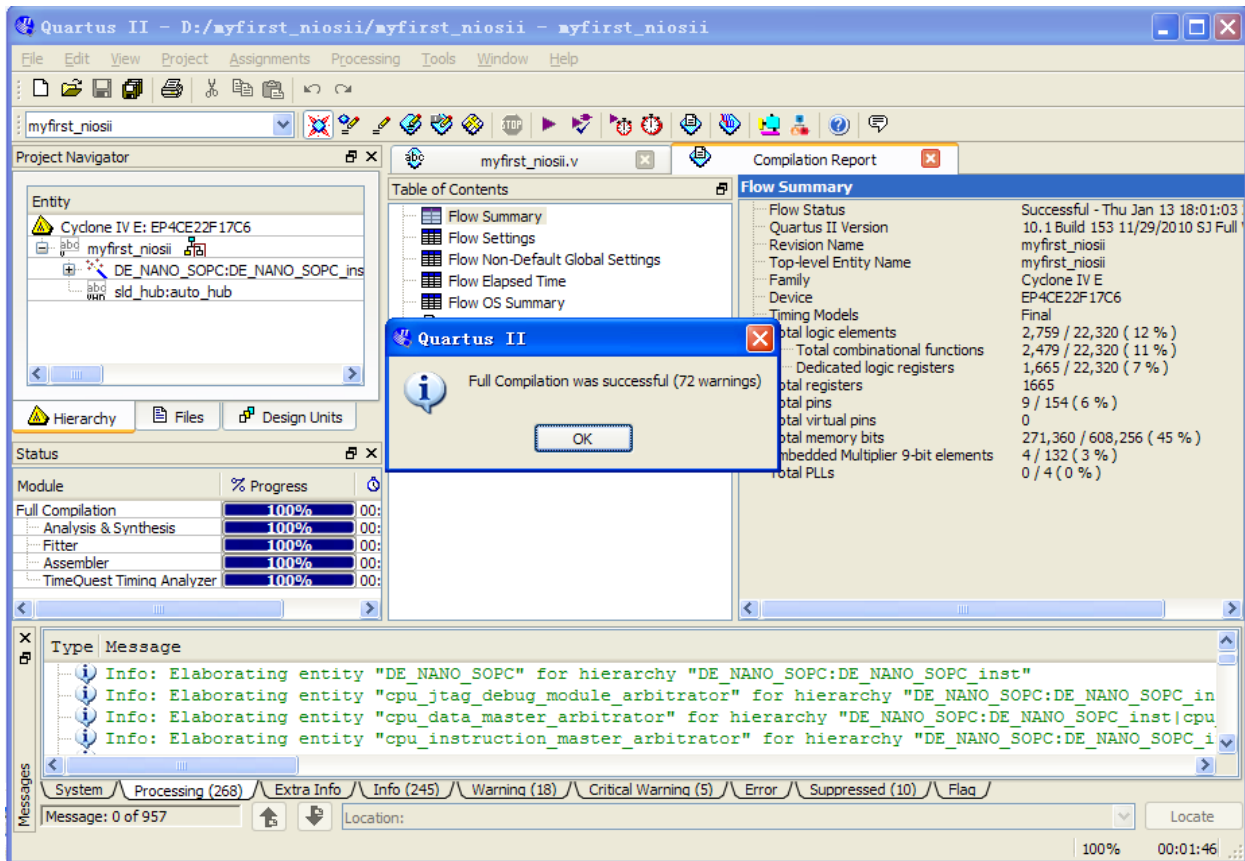

Figure 7-49 Compile project completely
37. A window that shows successfully will appear as shown in **Figure 7-49**.